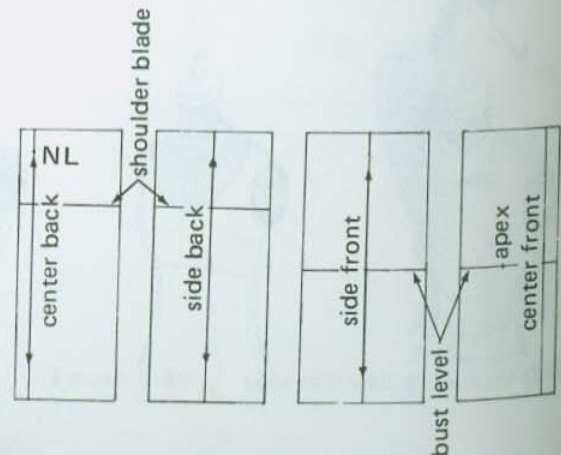

FIGURE 3-52 / STEP A
3. Draw grain lines as illustrated in Figure 3-52.